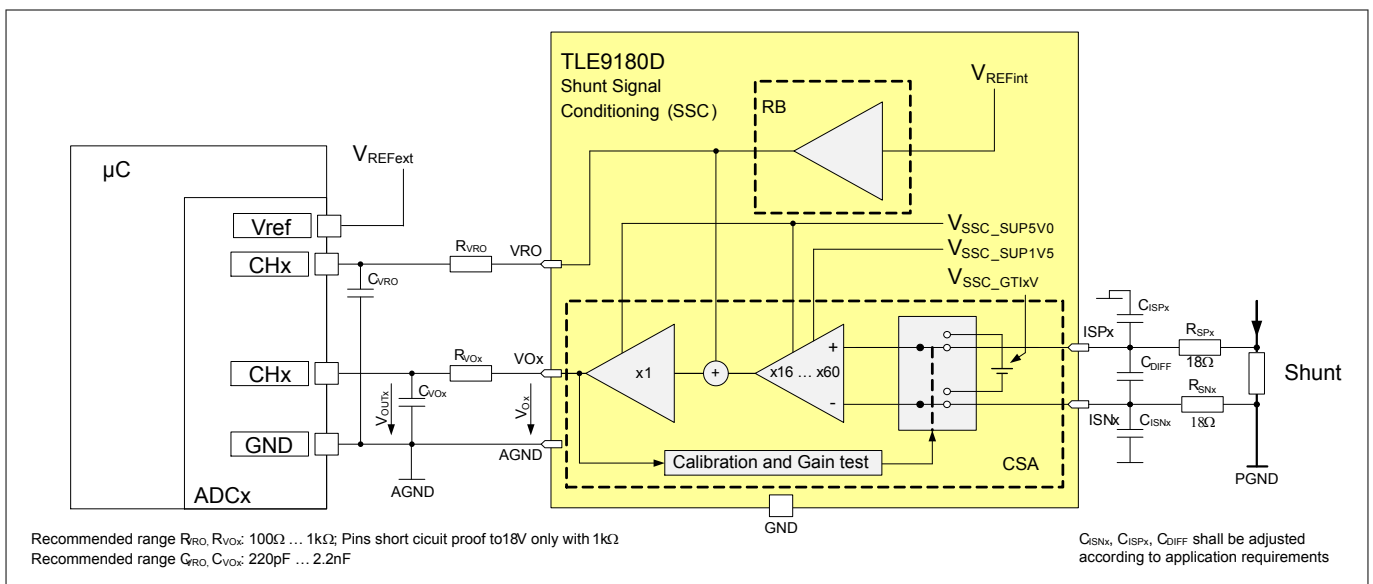

Figure 5 Simplified Block- and Application Diagram of the Shunt Signal Conditioning
The shunt signal conditioning (SSC) incorporates 2 precise current sense amplifiers (CSAs) to amplify the voltage drop at the shunt resistors caused by the motor currents and a voltage reference output buffer (RB), see Figure 5.